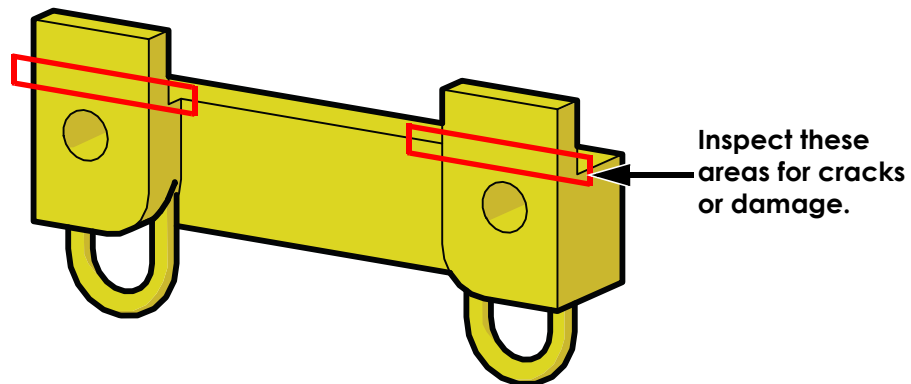

Figure 3: Foot stop plate
3. Inspect the foot stop plate ears for cracks or damage. See Figure 3 below.